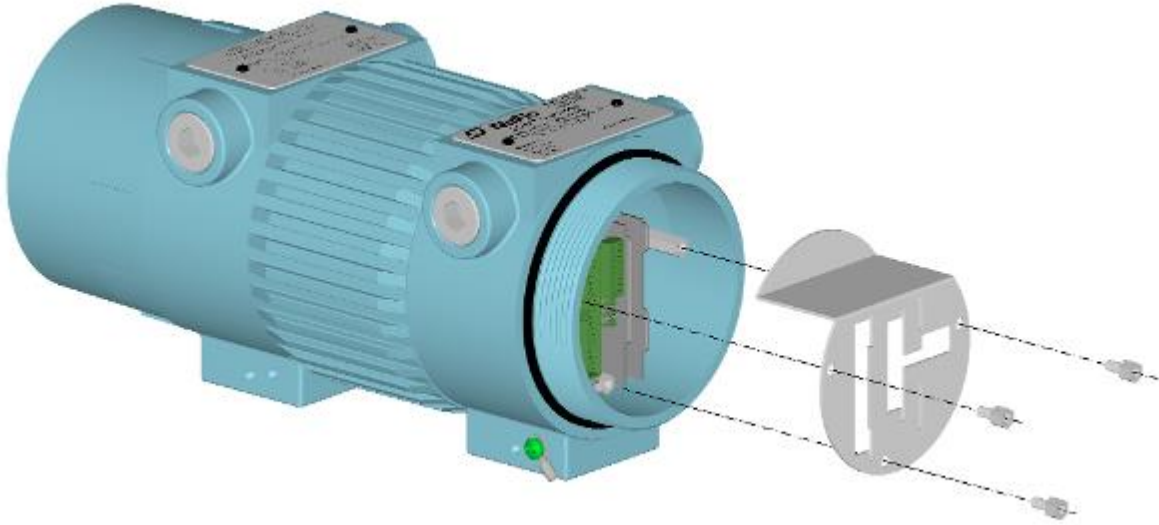

Figure 8.10: Rear Access Panel Removal
4. Push site cabling aside as required. (Note: It is assumed that the conduit and site cabling will be installed.) Remove the three hex standoffs holding the rear access panel in place (Figure 8.10) and lift the panel from the enclosure. The three acoustic processing boards (IOB, CTC, and MXR as installed left to right) are now visible.